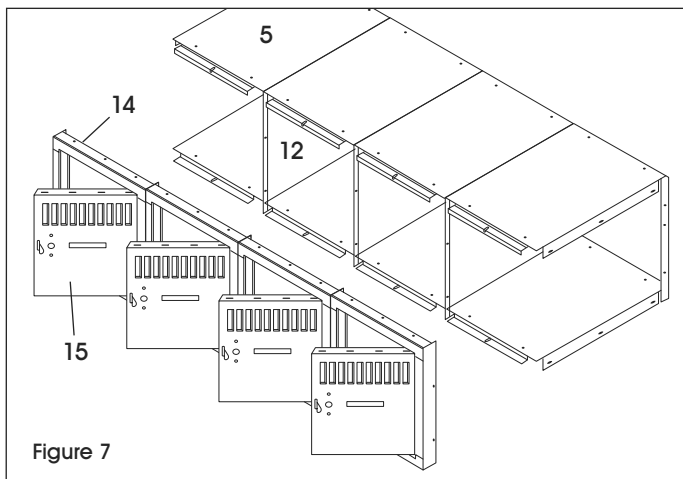

Figure 7
- Place the door and frame assembly (14 and 15) over the locker frames. Make certain the body sides are inside the frames, not between the frames. Attach top to frame header and bottom to frame sill (one bolt each). Bolt the side of the door frame (14) and side for horizontal section (12) together, from left to right (2 bolts each). Bolts will be shared with the door on either side. Leave bolt holes open on the outside frames. These holes are needed to join the units together. (See Figure 7)